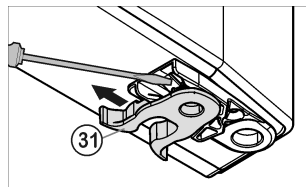

Fig. 8
- ▶ Swap the spring clip Fig. 8 (31): Push the locating lug down. Pull the spring clip up and out.